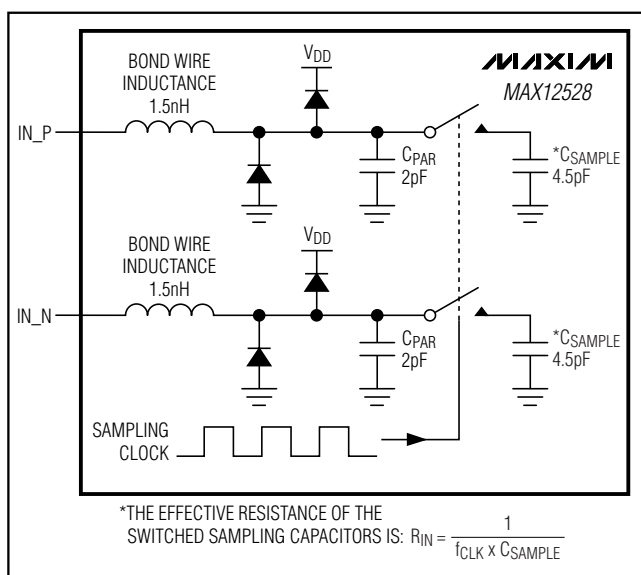
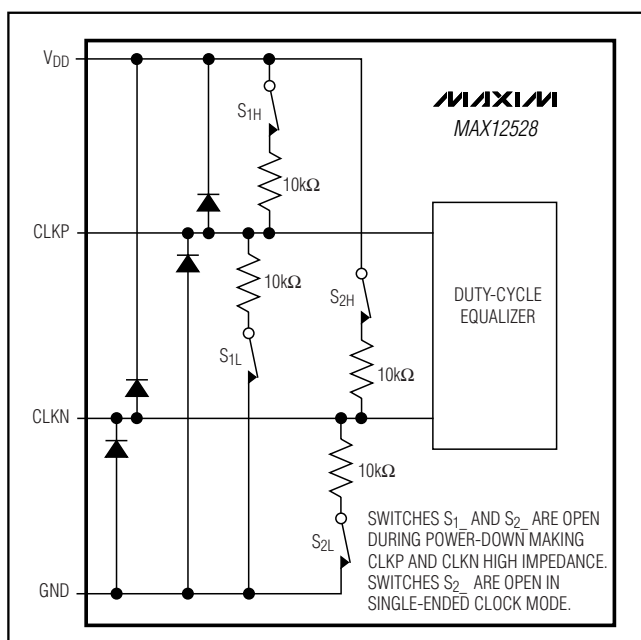

Figure 3. Internal T/H Circuit
Figure 4. Simplified Clock Input Circuit
Figure 3 displays a simplified functional diagram of the input T/H circuit. This input T/H circuit allows for high analog input frequencies of 175MHz and beyond and supports a $V_{DD} / 2$ common-mode input voltage.
The MAX12528 sampling clock controls the switched-capacitor input T/H architecture (Figure 3) allowing the analog input signals to be stored as charge on the sampling capacitors. These switches are closed (track mode) when the sampling clock is high and open (hold mode) when the sampling clock is low (Figure 4). The analog input signal source must be able to provide the dynamic currents necessary to charge and discharge the sampling capacitors. To avoid signal degradation, these capacitors must be charged to one-half LSB accuracy within one-half of a clock cycle. The analog input of the MAX12528 supports differential or single-ended input drive. For optimum performance with differential inputs, balance the input impedance of IN_P and IN_N and set the common-mode voltage to mid-supply ($V_{DD} / 2$). The MAX12528 provides the optimum common-mode voltage of $V_{DD} / 2$ through the COM output when operating in internal reference mode and buffered external reference mode. This COM output voltage can be used to bias the input network as shown in Figures 9, 10, and 11.
The MAX12528 accepts both differential and single-ended clock inputs with a wide 25% to 75% input clock duty cycle. For single-ended clock input operation, connect DIFFCLK/SECLK and CLKN to GND. Apply an external single-ended clock signal to CLKP. To reduce clock jitter, the external single-ended clock must have sharp falling edges. For differential clock input operation, connect DIFFCLK/SECLK to OVDD. Apply an external differential clock signal to CLKP and CLKN. Consider the clock input as an analog input and route it away from any other analog inputs and digital signal lines. CLKP and CLKN enter high impedance when the MAX12528 is powered down (Figure 4).
- 1) INAP/B and INAN/B analog inputs are disconnected from the internal input amplifier (Figure 3).
- 6) CLKP and CLKN clock inputs enter a high-impedance state (Figure 4).